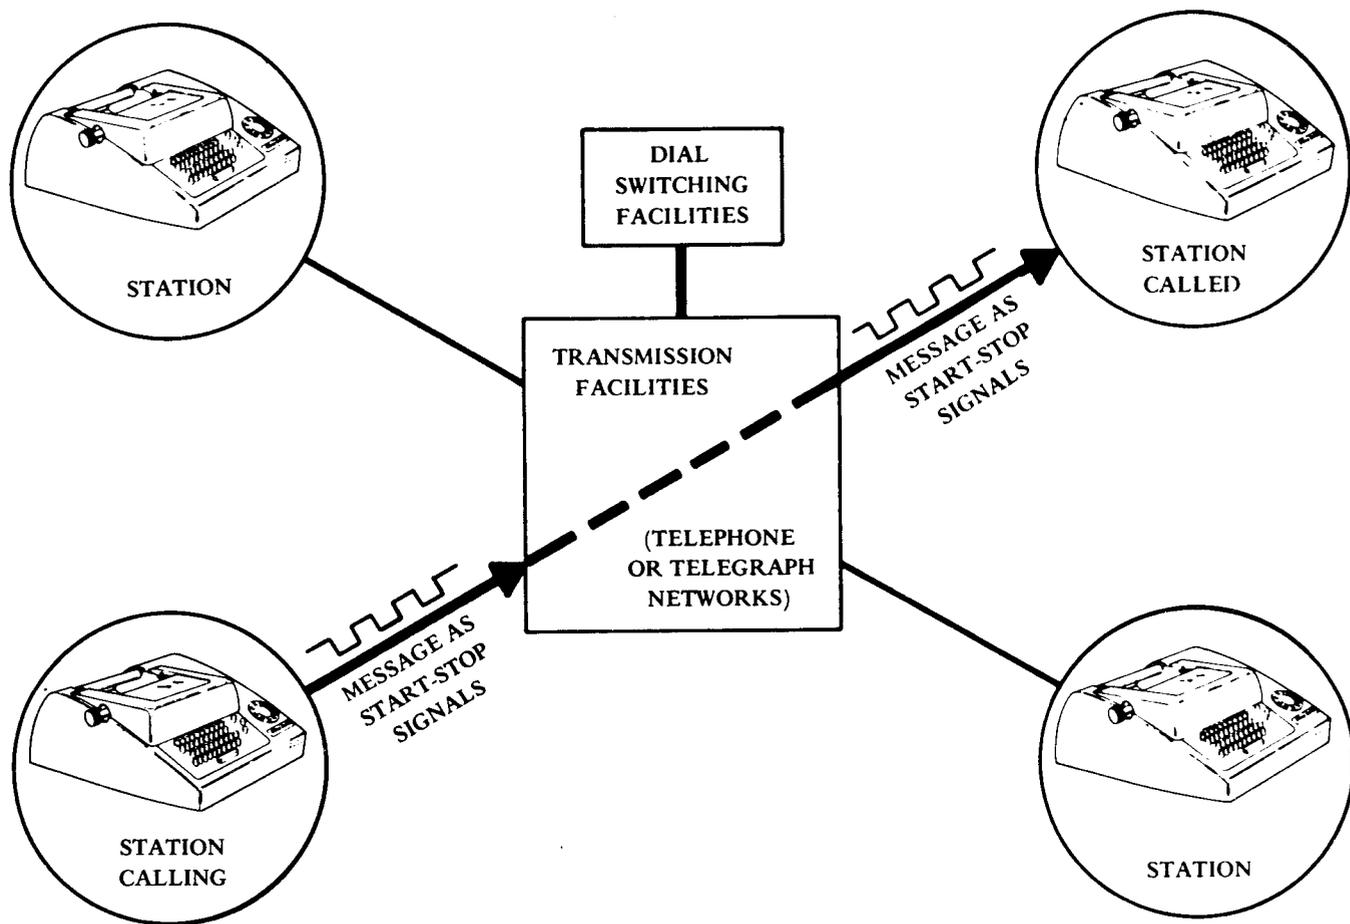

Figure 16 - Typical Applications
5.01 The following is a brief description of how 33 Teletypewriter Sets, equipped with call control and answer-back features, may be used in a typical communication system (Figure 16). When a call is to be made, an operator uses the controls on the teletypewriter set to gain access to the system switching and transmission facilities, which may be dial telephone or telegraph networks. The operator then dials the number of the called station.